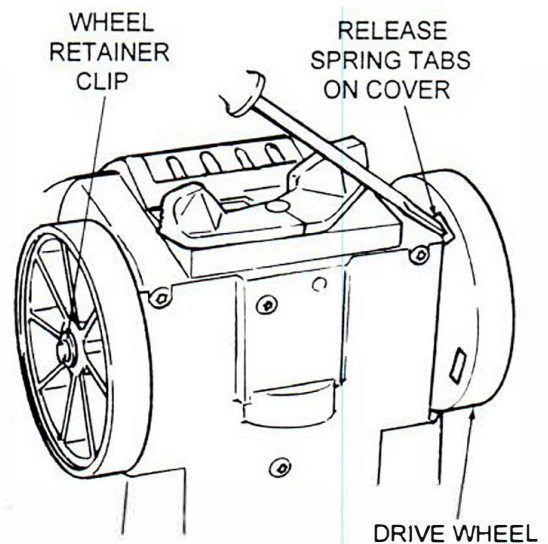

Figure 13. Drive Wheel Cover and Wheel Replacement
- A. See Figure 13. Insert a thin flat bladed screwdriver through slots in back of wheel and gently twist to release spring tabs of wheel cover. Lift off wheel cover.